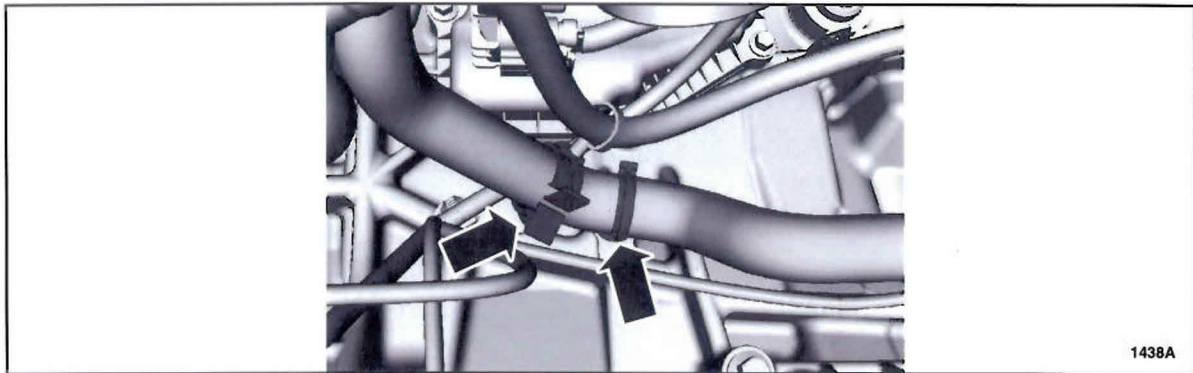

FIGURE 1
4. Remove the lower radiator hose retaining clip and detach the push pin retainer from the transmission. See Figure 1.
22. Position the lower radiator hose back in place. Install the radiator hose retaining clip and attach the push pin retainer onto the transmission. See Figure 1.